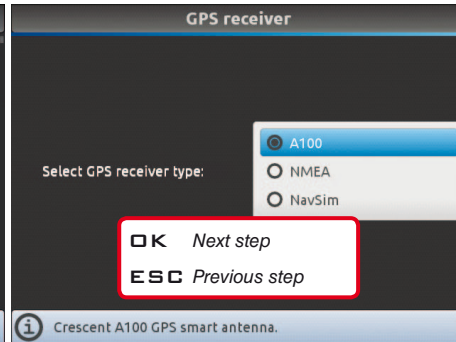

Fig. 49
- Upon first switching on, Bravo 400S starts the guided setup procedure for the **Tractor**: go through each step selecting the desired options (example in Fig. 49).